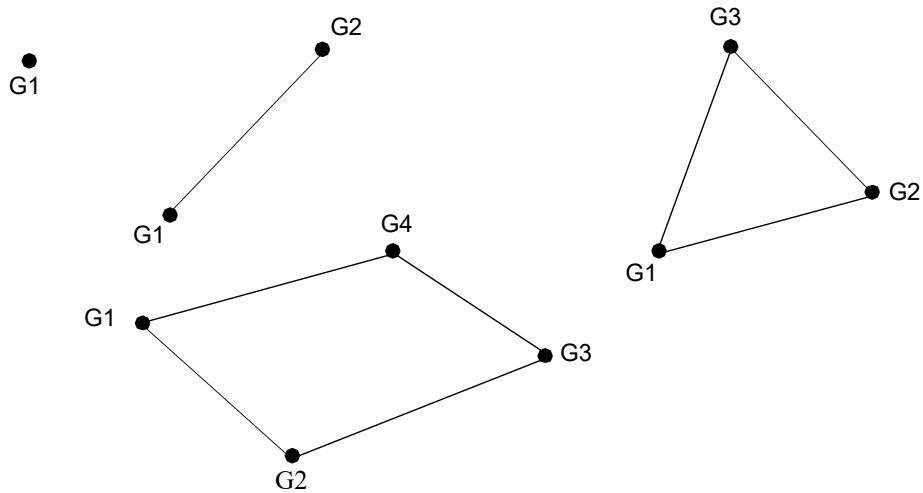

Figure 9-5 Four Types of CAABSF Elements
2. If only G1 is specified then a point impedance is assumed. If G1 and G2 are specified then a line impedance is assumed. If G1, G2, and G3 are specified, then an impedance is associated with the area of the triangular face. If G1 through G4 are specified, then an impedance is associated with the quadrilateral face. See Figure 9-5.